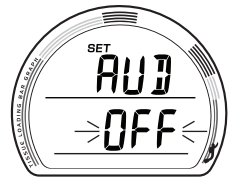

Fig. 31 - SET AUDIBLE
**SET AUDIBLE ALARM**, information includes (Fig. 31):